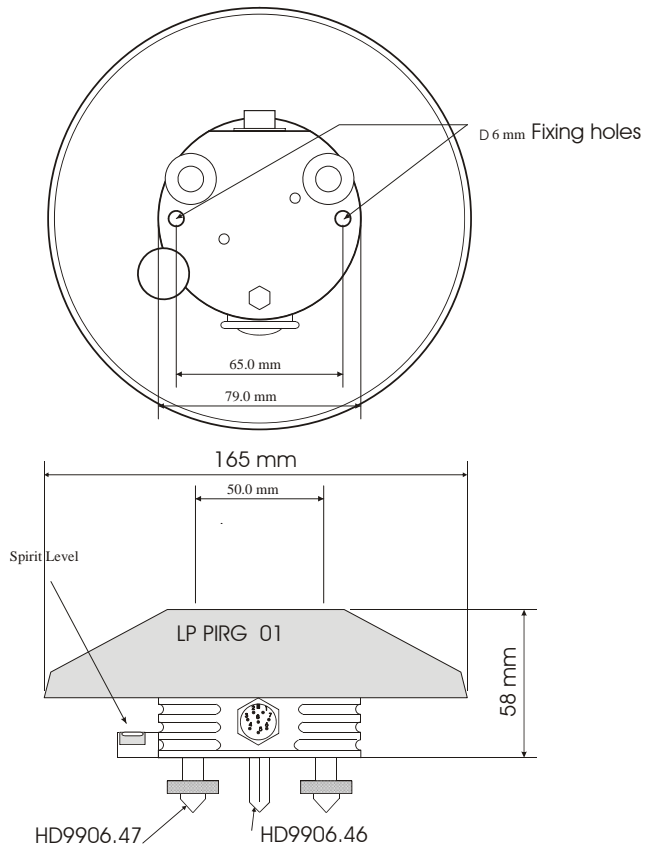

Figure 2
- For an accurate horizontal positioning, the pyrgometer LP PIRG 01 is equipped with a spirit level, which adjustment is by two screws with lock nut that allows changing the pyrgometer inclination. The fixing on a flat base can be performed by using two 6mm diam. holes and 65 mm wheelbase. In order to access the holes, remove the screen and re-place it back after mounting, see figure 2.
Dimensions:	figure 2